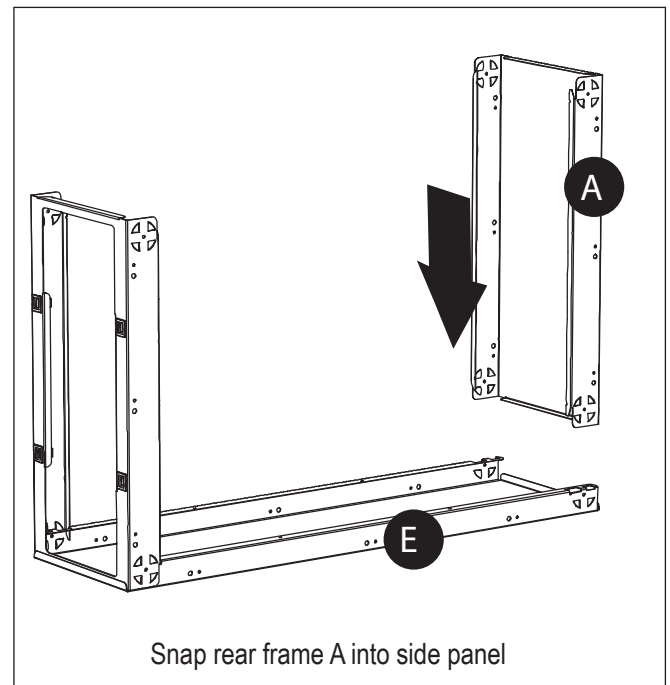

Figure 4. Assemble Rear Frame (A) to Side Panel (E)
3. Align and insert rear frame A into side panel E (see figure 4).